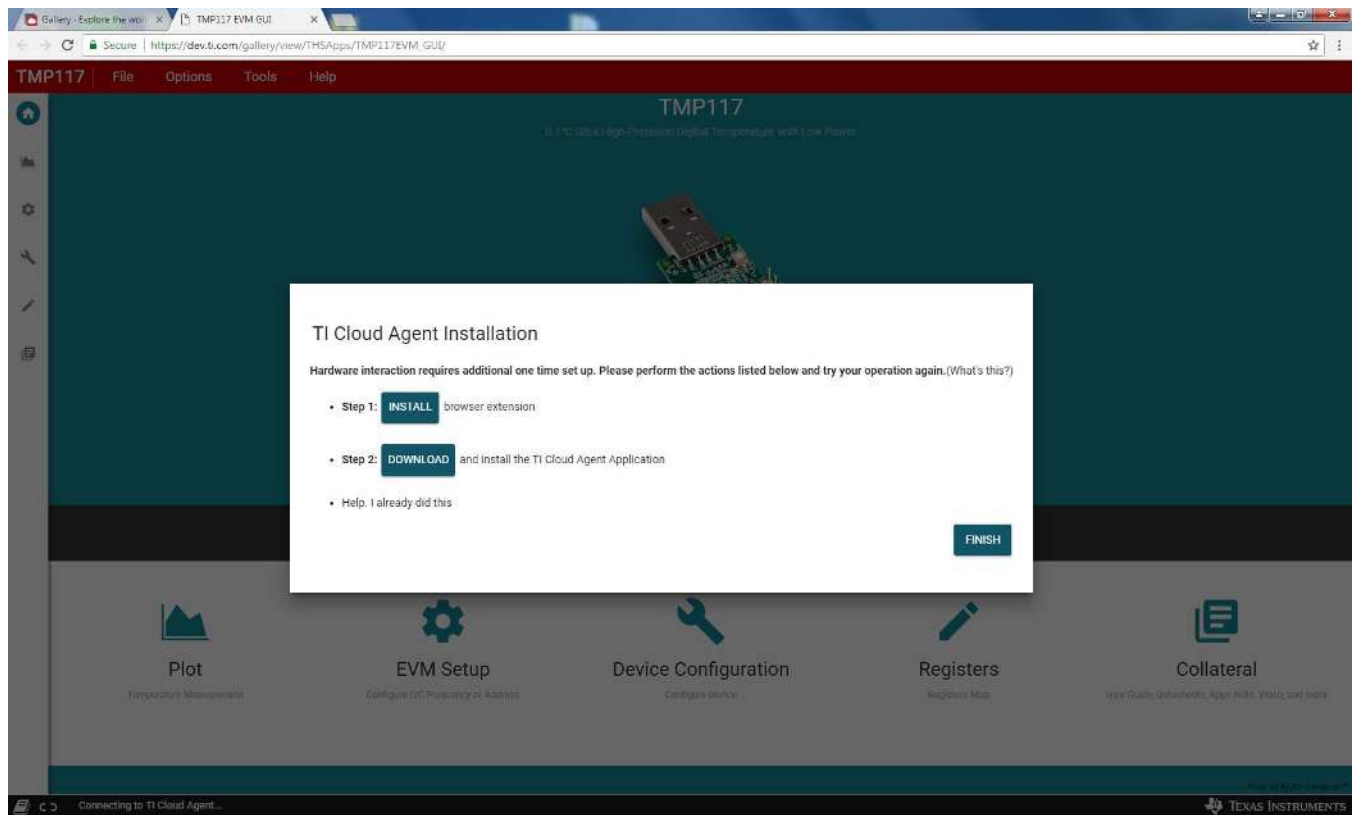

Figure 6. Browser Extension and TI Cloud Installation
4. Follow the steps to install the browser extension and TI Cloud Agent Applications in Figure 6.